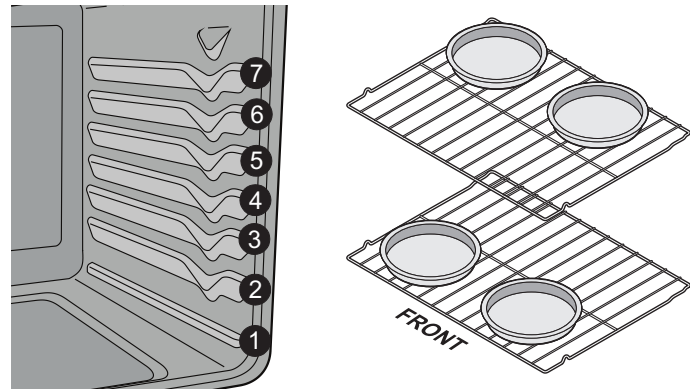

Figure 19: Rack positions and pan placement
- For best results when baking layer cakes using two oven racks, place racks in positions 3 and 6 and place pans as shown in Figure 19.